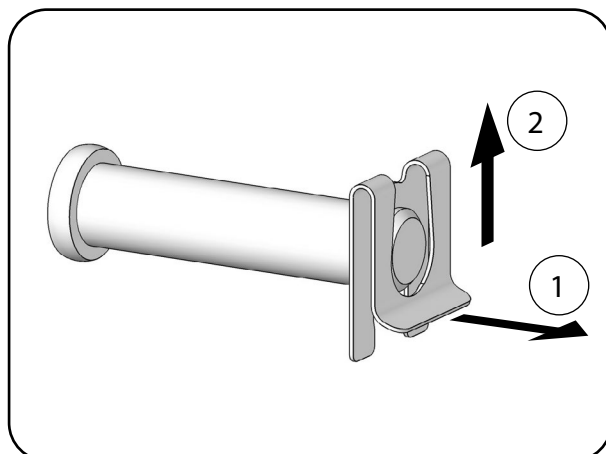

Fig. 6.1.04 – Dismantling the locking plate
Pull the curved end of the plate back a little (1) and push the locking plate out of the groove of the pin (2) (Fig. 6.1.04).